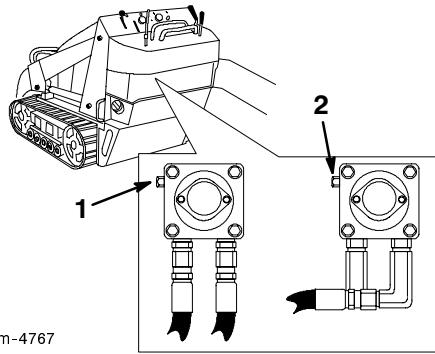

Figure 14
- Using a wrench, turn the tow valves on the hydraulic pumps twice counter-clockwise (Fig. 14).